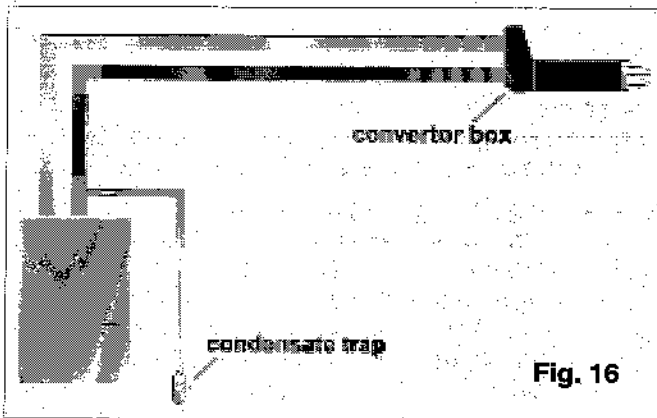

Fig. 16
5.5.3.2 INSTALLATION OF CONDENSATE DRAIN KIT (fig. 16)